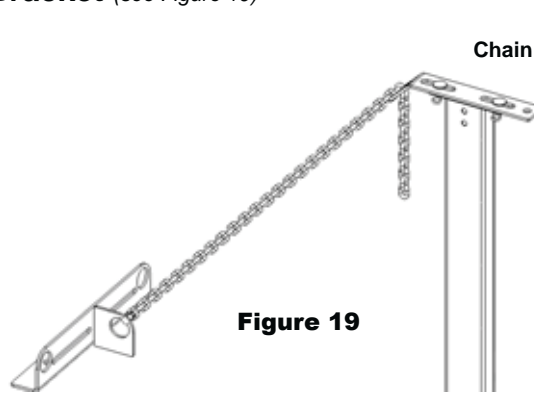

Figure 19
C. Slider Bracket to End Stanchion and Connection to Tie-Back Bracket *(see Figure 19)*